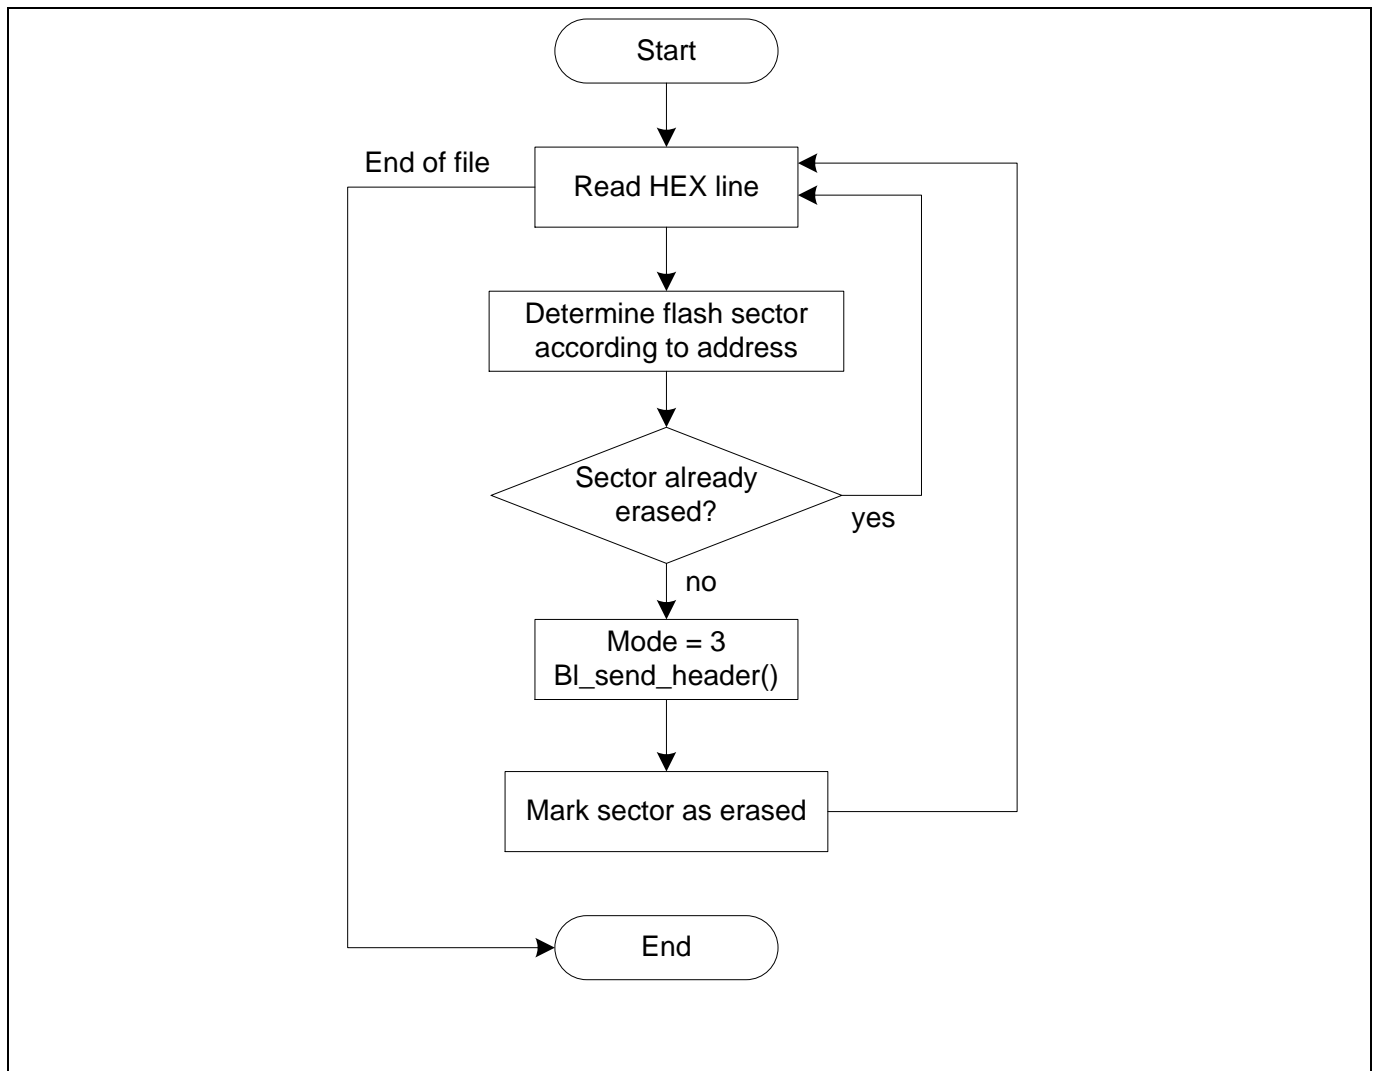

Figure 7 Flash erase procedure implemented in `bl_erase_flash()`
- The flash erase procedure is implemented in the function `bl_erase_flash()` shown in Figure 7.